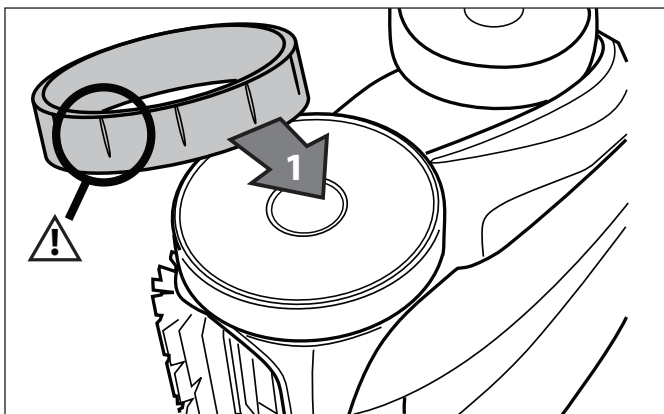

Figure 34. Tire Replacement Orientation
3. To replace the tire, position the tire on the wheel making sure to orient the tire so that the grooves are on the outer side of the wheel. See Figure 34.